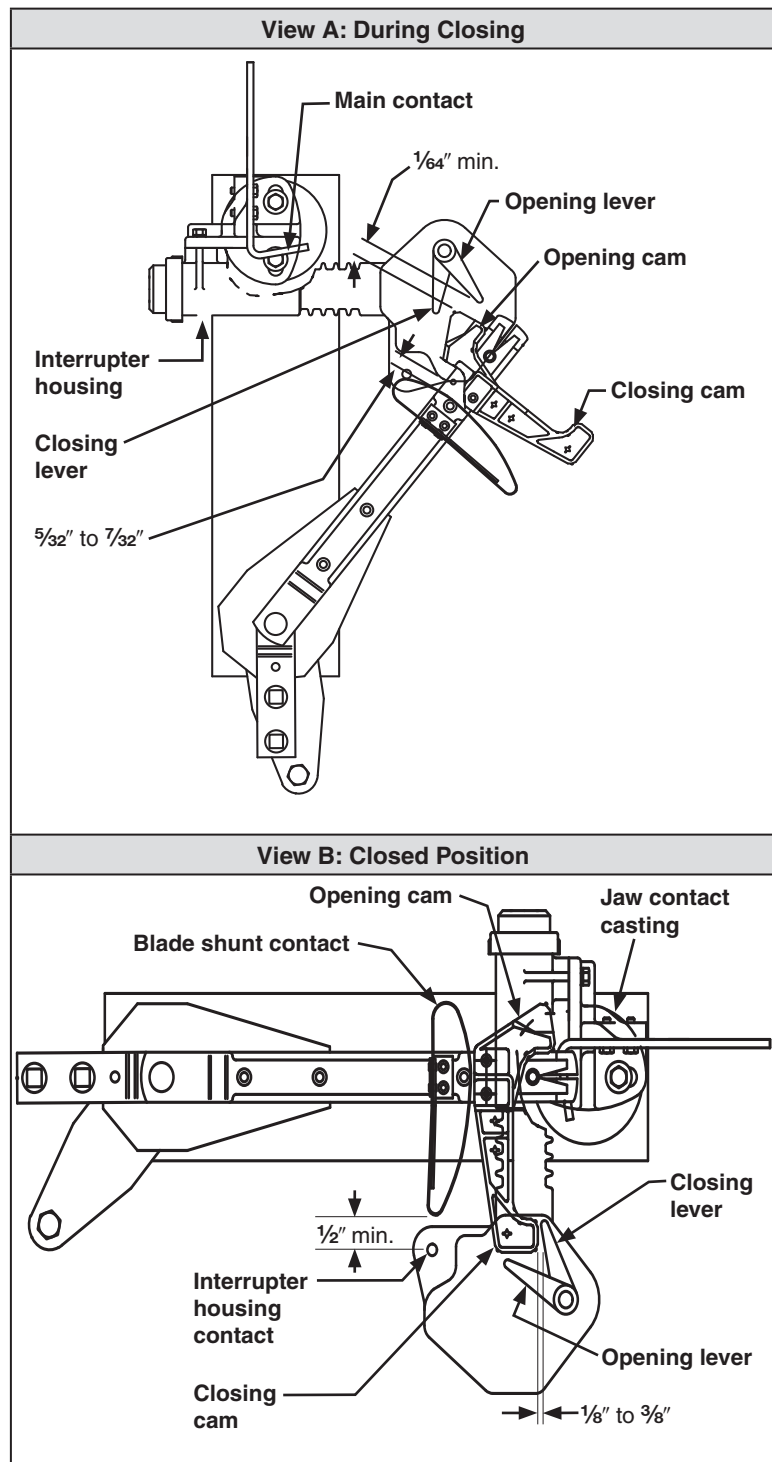

Figure 10. Operating checkpoints for switches rated 25 kV.
- c. Open the switch and place the blade in the position shown in Figure 10, View A. The following conditions should be met:
- f. Slowly close the switch. At the start of the closing stroke, the interrupter housing should be at the distance checked in Step 8c and should continue to make contact with the shunt contact during the duration of the closing stroke. This will ensure that the shunt contact and interrupter housing contact stay in the circuit long enough for the interrupter to break the circuit during the opening stroke. See Figure 10, View B.